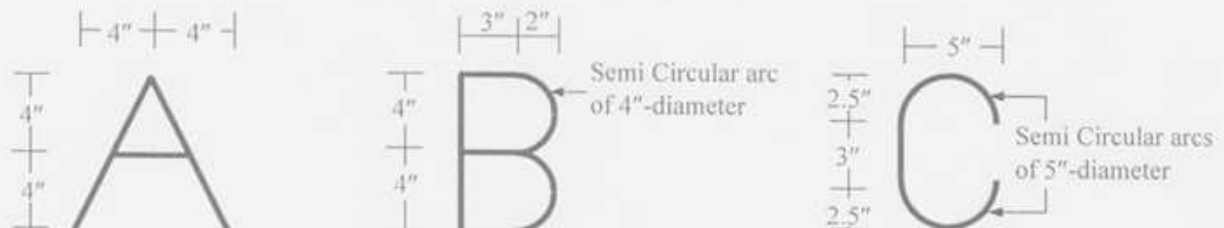

Fig. 3
- Calculate the equivalent polar moments of inertia (J_{eq}) for the three cross-sections shown in Fig. 3 by centerline dimensions [Given: Wall thickness = $0.10''$ throughout].
- (c) A jet of water flowing freely in atmosphere is deflected by a curved vane as shown in Figure 3. If the water jet has a diameter of 4 cm and a velocity of 30 m/s then determine the reaction on the vane. (8)